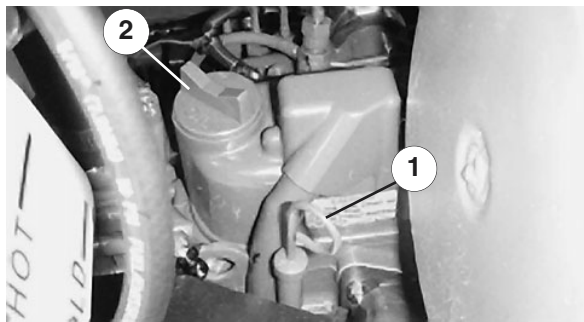

Figure 2
2. Remove the dipstick (Fig. 2), wipe it clean and reinstall it. Remove it again and check the oil level. The level should be up to the FULL mark on the dipstick